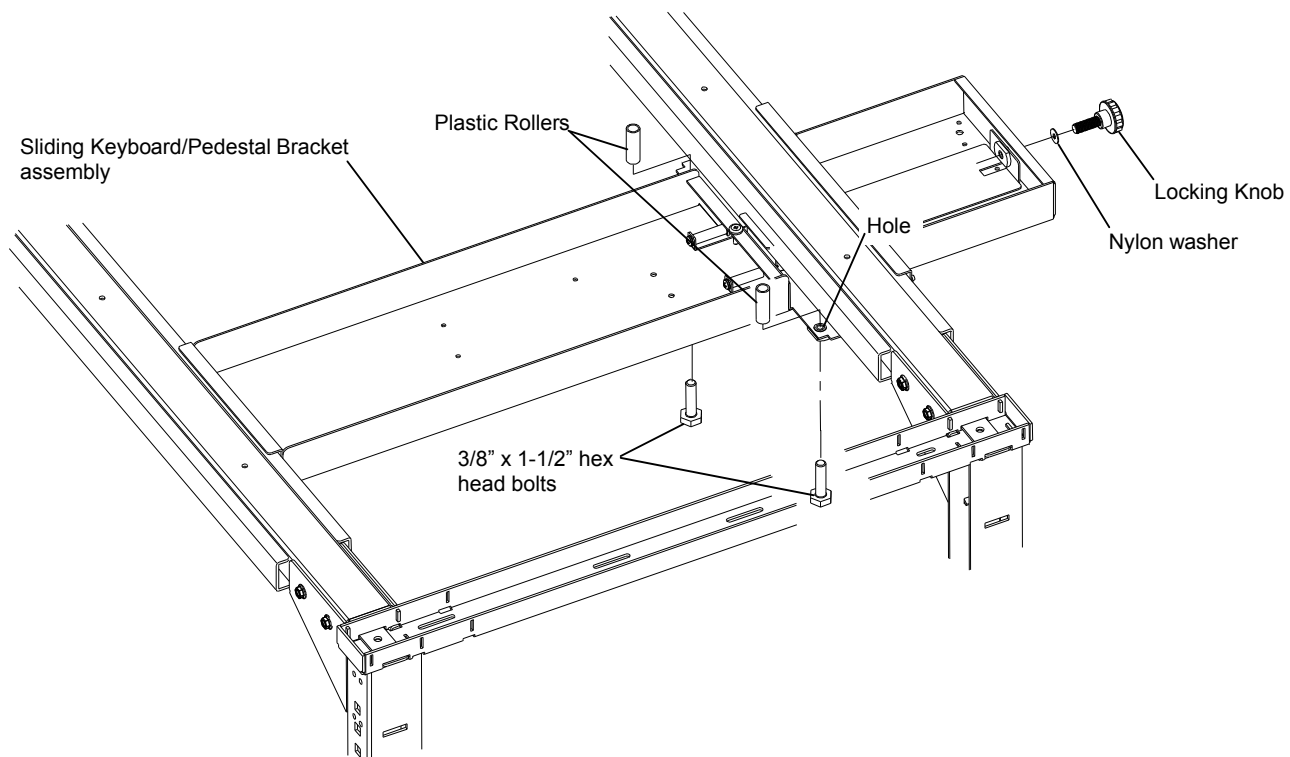

Figure 4.
5. While holding the unit in place, align the two Plastic Rollers (removed in step 1) with the holes in the top of the bracket. See figure 4. The Rollers should be between the worksurface and the bracket.
6. Re-install the two Locking Bolts (removed in step 1) into the holes as shown in figure 4. Thread them all the way in and tighten using the $\frac{9}{16}$ " wrench.